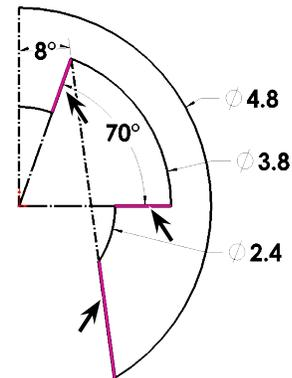

Fig. 11
Step 1. Click **Line**  (L) on the Sketch toolbar.
Step 2. Sketch **three lines** between arcs, Fig. 11.